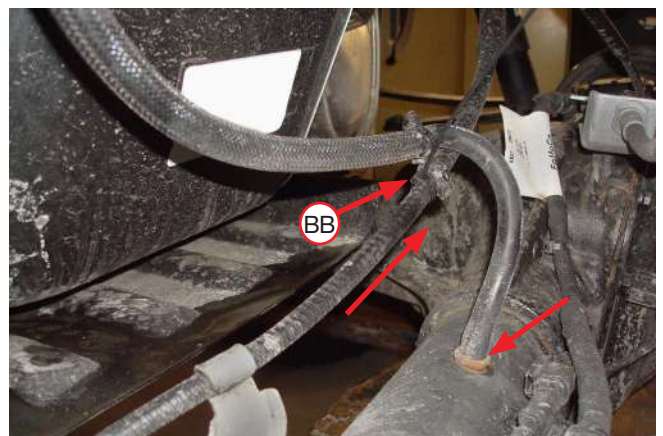

Fig. 4
3. Move the vent tube line holder that is around the emergency brake cable, inward until it aligns with the vent tube that is bolted into the axle (Fig. 4). Attach a zip tie (BB) around the emergency brake cable to prevent the holder from moving toward the tire.